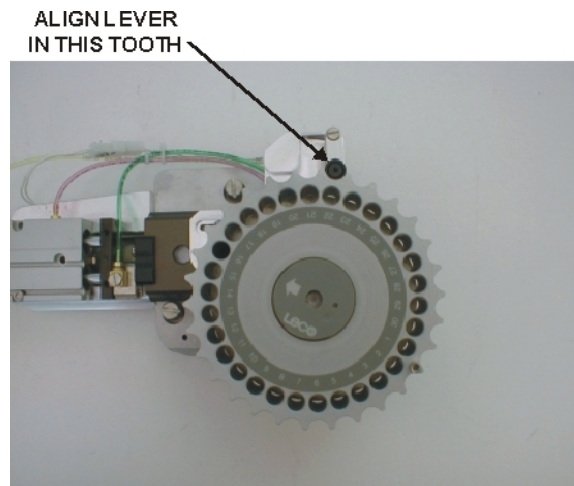

Figure 9-6
9. The lever on the arm should line up with the tooth on the carousel. If it doesn't move the actuator arm until it does. Refer to Figure 9-6, page 9-32.